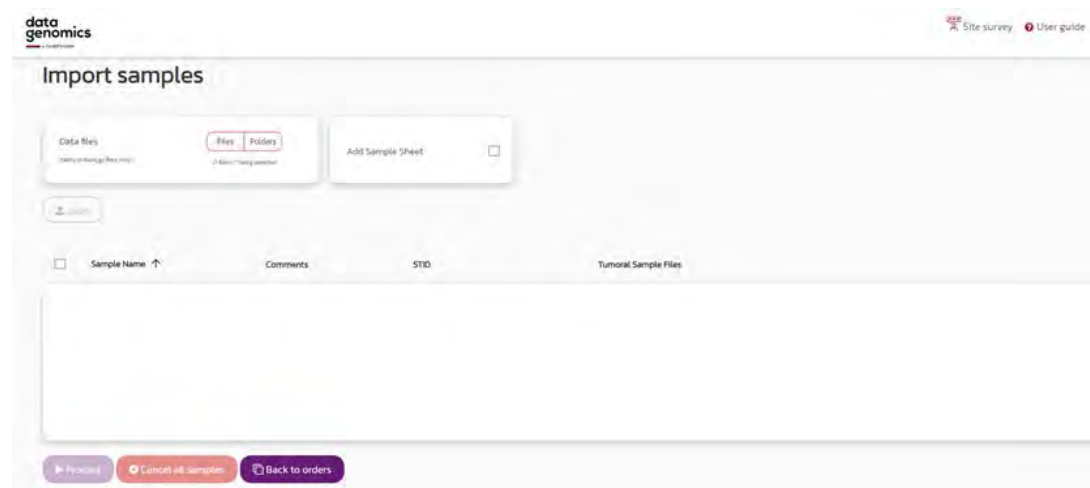

Figure 25. Screen to import the fastq files and the SampleSheet and start the analysis request
- 01 Select the "Import Samples" on the main screen (*Orders tab*) to begin the analysis of the sequenced samples. This will take you to the file import screen (Figure 25). On this screen, the two fastq files associated with each sample must be imported. Optionally, the *SampleSheet* file could be used as well; this file allows simultaneously importing all files from the same sequencing run.